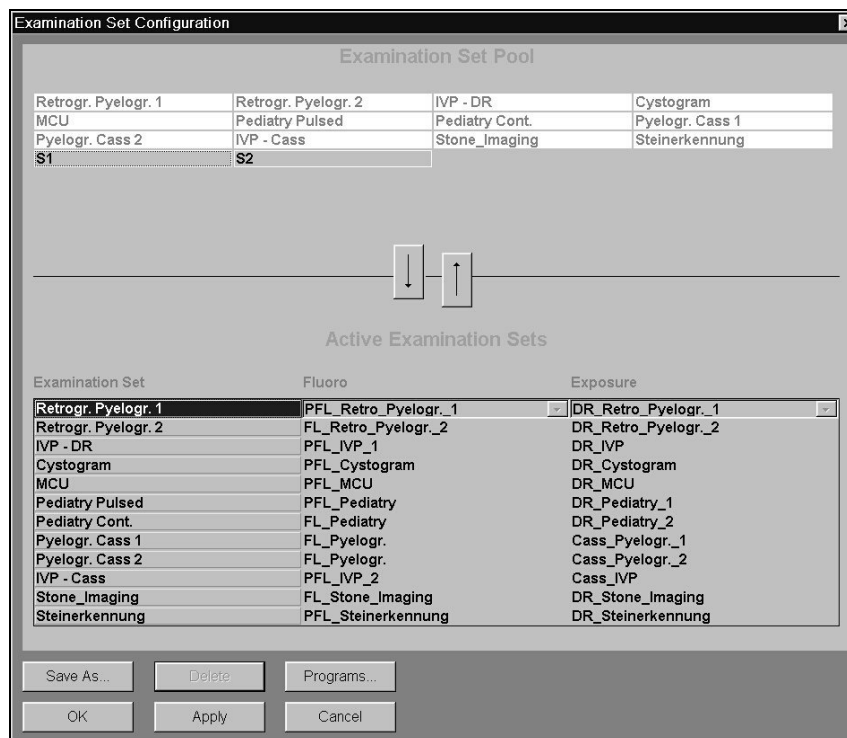

Fig. 10 Examination Set Configuration
- To check the examination sets, select them one after the other (Fig. 10) and check the default values (Tab. 3) by selecting the "Programs" button.